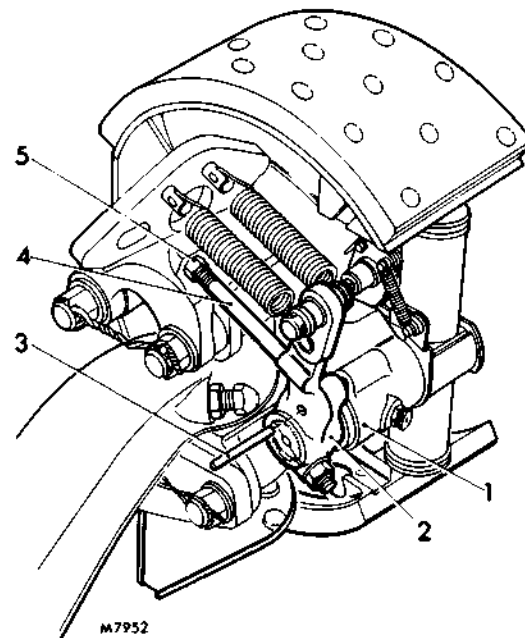

FIG. 4. ADJUSTMENT OF LEVER STOP ROD
- e. Before carrying out adjustment of the brake lining clearance, insert a 6.35 mm ( $\frac{1}{4}$  in) diameter register rod in the hole drilled in the brake operating lever, and move the lever slightly until the rod can also be located in the brake carrier, see Fig. 4. With the register rod located, adjust the lever stop rod by slackening the locknut and unscrew rod until it just touches the brake lever. Secure locknut and remove register rod.